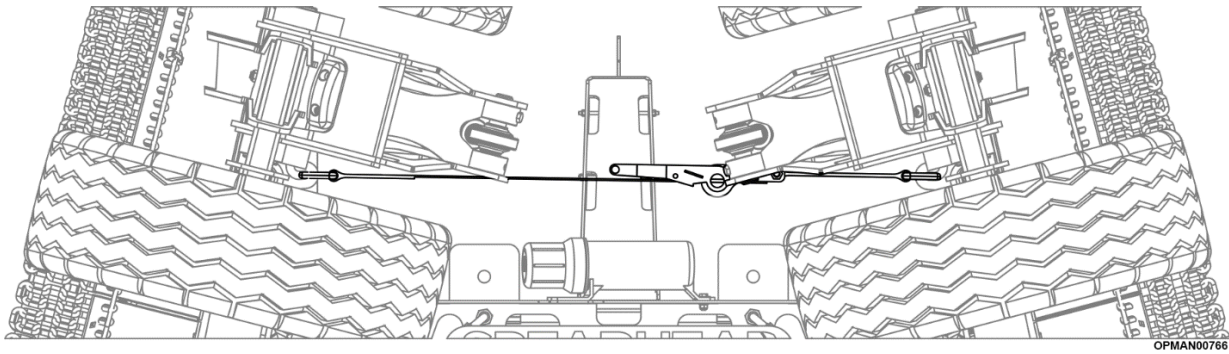

Figure 4.17
- 4.6.1.2 Remove the ratchet securing strap; see Figure 4.17.
- 4.6.1.10 Safely stop the tractor and fit the ratchet securing strap; see Figure 4.17.